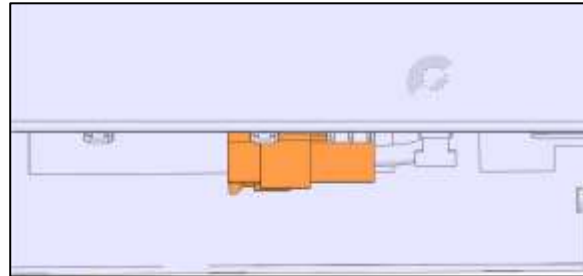

Figure 6
6. Re-install connector pair on door.(Figure 6)